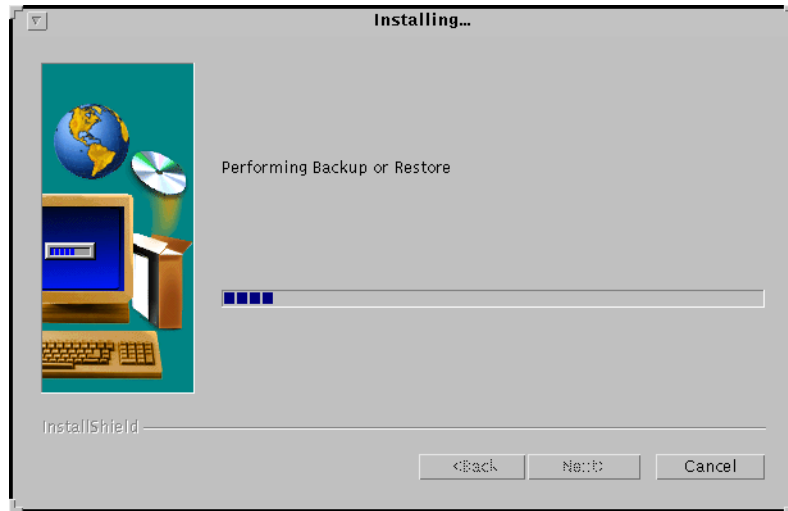

Figure B-4: Status Screen
6. Select the Backup option and press the **Next** button. The status screen (see Figure B-4) appears. The system issues the RFCCTL hostname prompt: